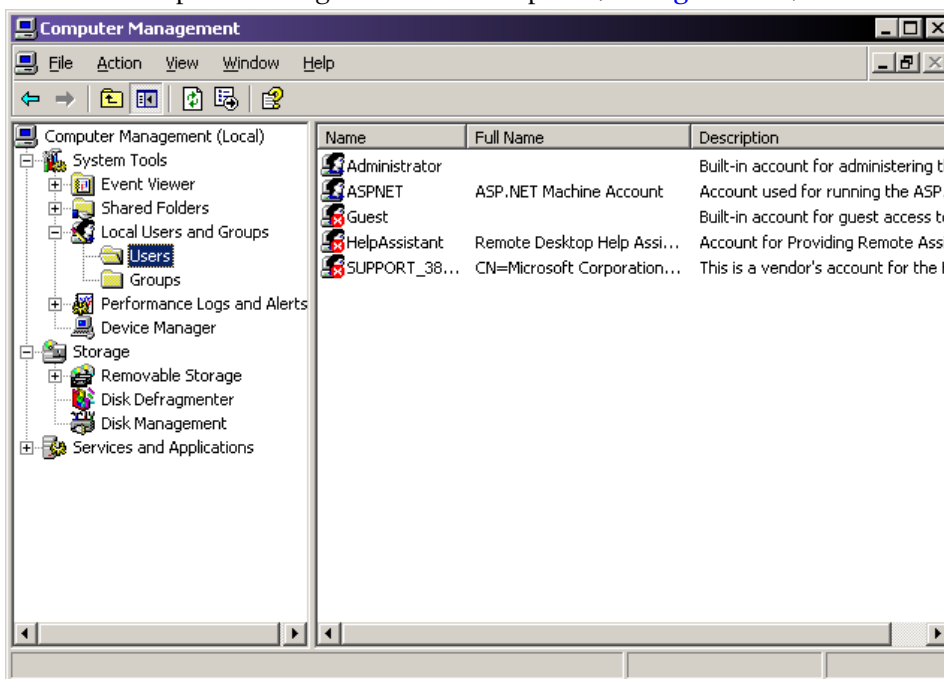

Figure 8.10 Computer Management Console - Selecting Users
1. Select **Start | Settings | Control Panel | Administrative Tools | Computer Management**. The Computer Management console opens (see Figure 8.10).